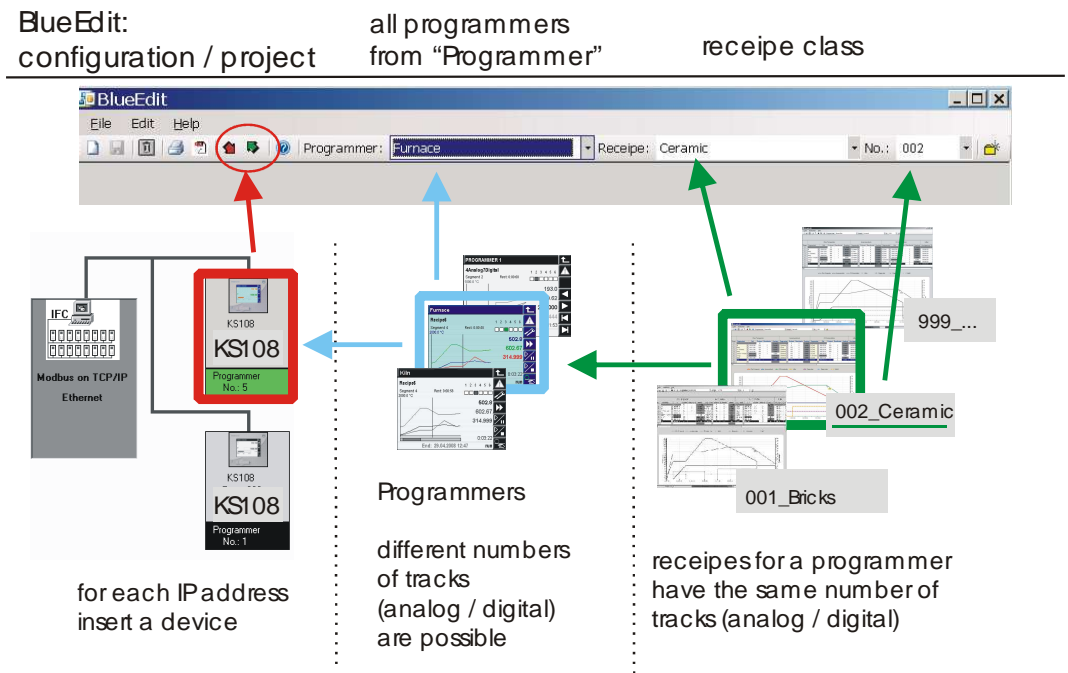

Fig. 28: Configuration project in program editor
1. Select the programmer for which you want to create a recipe (Fig. 28: Configuration project in program editor, mouse pointer).